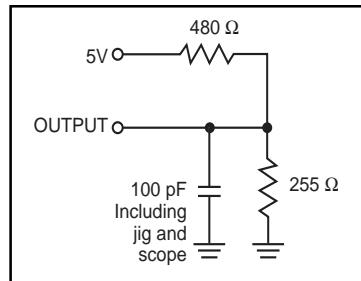

Figure 1.
1. Test conditions assume signal transition times of 5 ns or less, timing reference levels of 1.5V, input pulse levels of 0 to 3.0V and output loading specified in Figure 1.
Output Load	See Figures 1 and 2
- Test conditions assume signal transition times of 5 ns or less, timing reference levels of 1.5V, input pulse levels of 0 to 3.0V and output loading specified in Figure 1.